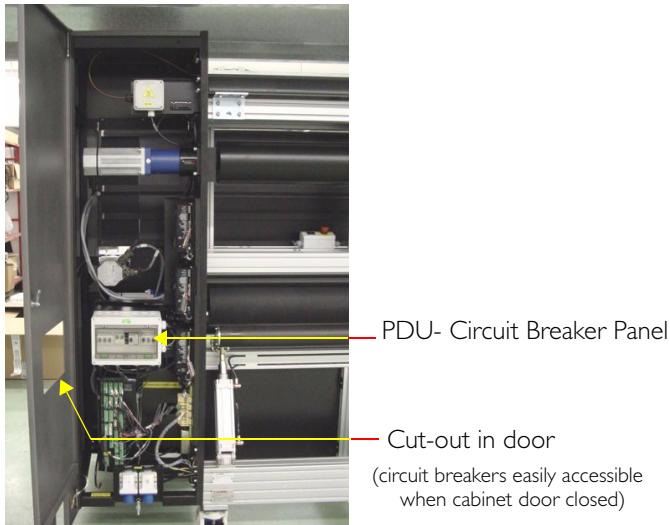

Figure 9. **Electrical Control Cabinet**
2. Standing at the electrical control cabinet at the *rear* of the printer (from the rear, this is located on the *left* side - see Figure 9), make sure that all circuit breakers on the PDU circuit breaker panel are in the OFF (*down*) position.